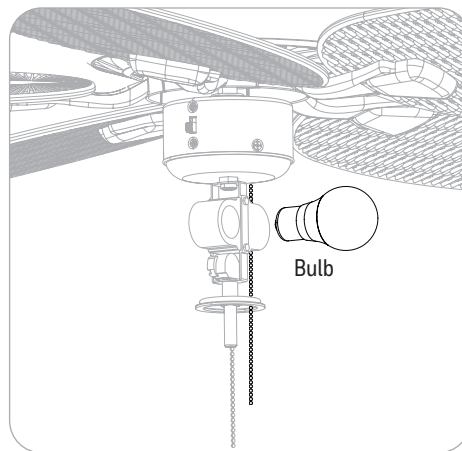

Figure 4.8
8. Install the two E26-base LED bulbs (Figure 4.8).